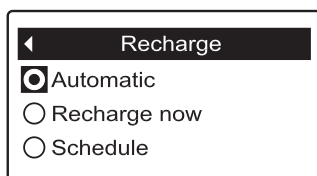

FIG. 110
4. Press the SELECT (O) button to display the Recharge menu (See Figure 110).